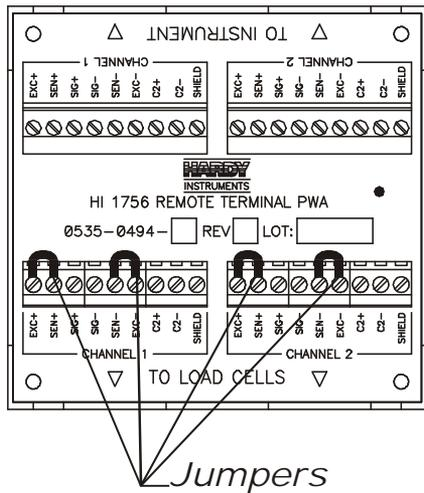

FIG. 3-9 RTA WITH JUMPERS FOR LOAD CELLS WITHOUT SENSE LINES
*When using load cells that **do not** have sense lines you will need to jumper the Sense (-) to the Excitation (-) and the Sense (+) to the Excitation (+) for one or both channels. (See Fig. 3-9)*